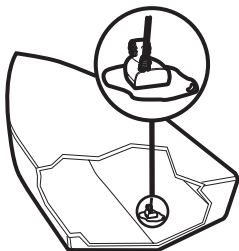

Figure 28
- Observe the outside of the boat hull to find the areas that are mostly free from turbulent water. Avoid ribs, strakes and other protrusions, as these create turbulence (Figure 28).
3. Place the transducer body face down at the identified mounting location inside the hull, with the pointed end towards the bow (Figure 28).
5. Coat the face of the transducer and the inside of the hull with epoxy (Figures 28 and 30).